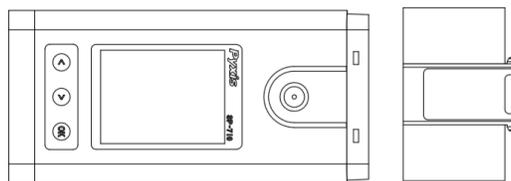

Figure 72.
6. Attach the new pH/ORP module to the main module as shown in Figure 72.